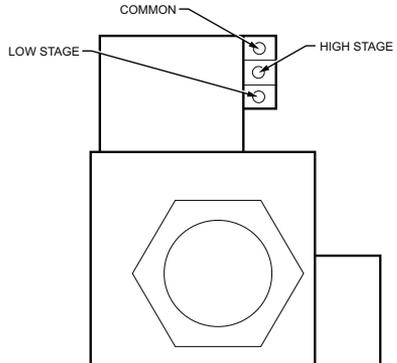

Fig. 4. Typical wiring connections.
3. Connect the control circuit to the gas control terminals. See Fig. 4 and 5 for typical terminal connections and wiring.